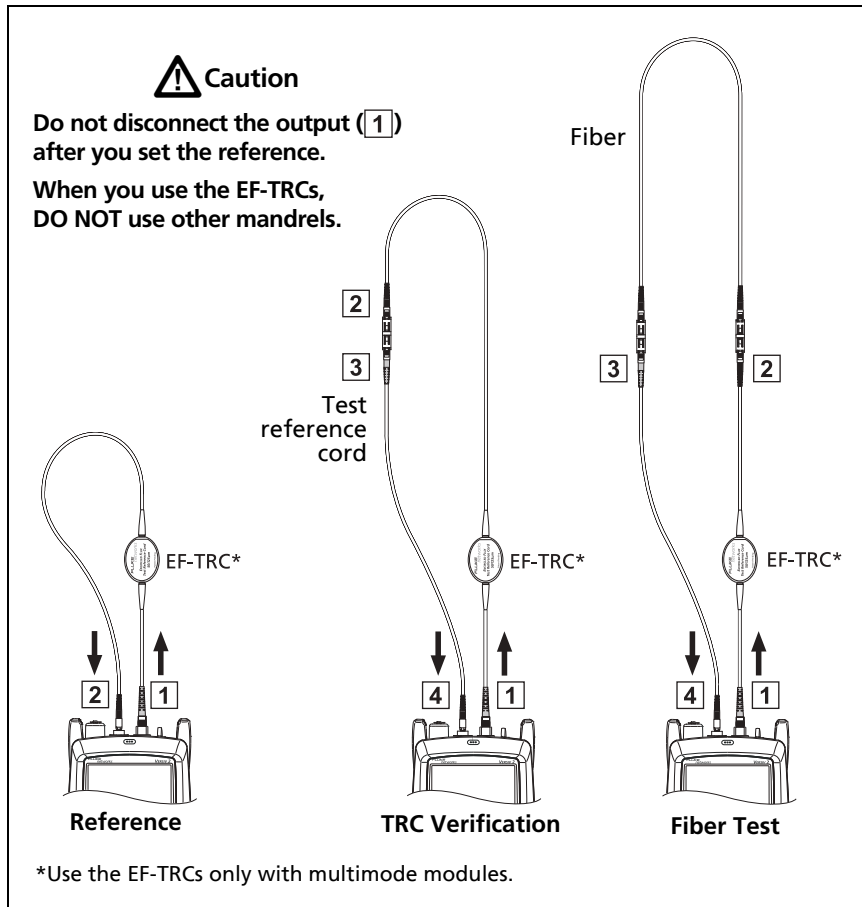

Figure 64. Connections for Loopback Mode
- 1-6 Make the connection to set the reference, as shown on the screen, then tap **NEXT** to see the completed connections. Figure 64 also shows the completed connections.
*The **SET REFERENCE** screen shows reference connections for the selected reference method. Figure 64 shows connections for the **1 Jumper** reference.*
- 2-2 Disconnect the test reference cord from the **INPUT** port on the tester, then use a test reference cord and adapter to make the connections to verify the TRCs, as shown on the screen and in Figure 64.
If the tester shows a warning, clean and inspect the connectors on the TRC, make sure the cords do not have tight bends, as shown in Figure 64, then do the TRC verification again.
- 3-3 Make the connections to do the test on the fiber, as shown on the screen and in Figure 64, then tap **HOME**.